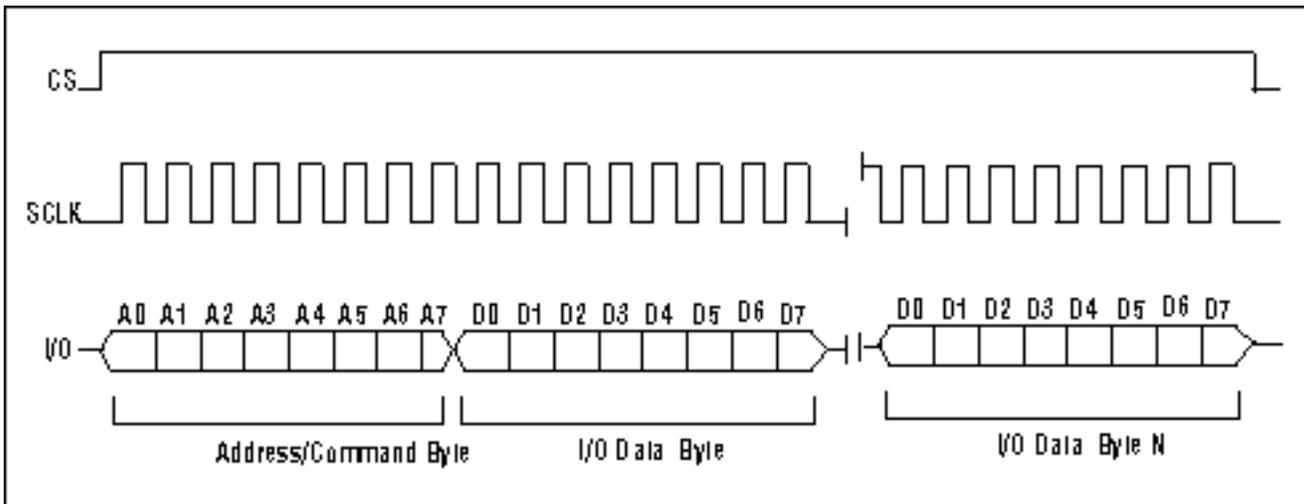

Figure 4. Burst write.
**Figure 4** shows the Burst Write operation for the 3-wire serial interface. In this mode, several successive bytes of data are written to the RTC. A distinctive Address/Command Byte is written to the RTC to indicate a Burst Write transfer and the starting address of the data. Data in consecutive addresses beginning with the starting address is written as long as CS is high and SCLK is still clocking. If the microcontroller sends more data than will fit in a specific burst location, the burst counter in the RTC will wrap around and data in the original starting burst address will be written to again and so on.